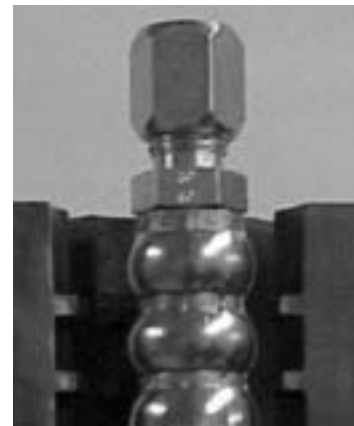

Fig. 5
9. Insert the properly prepared hose and coupling into the crimper. Line up the top of the die with the bottom of the stem hex. (See Fig. 5.)